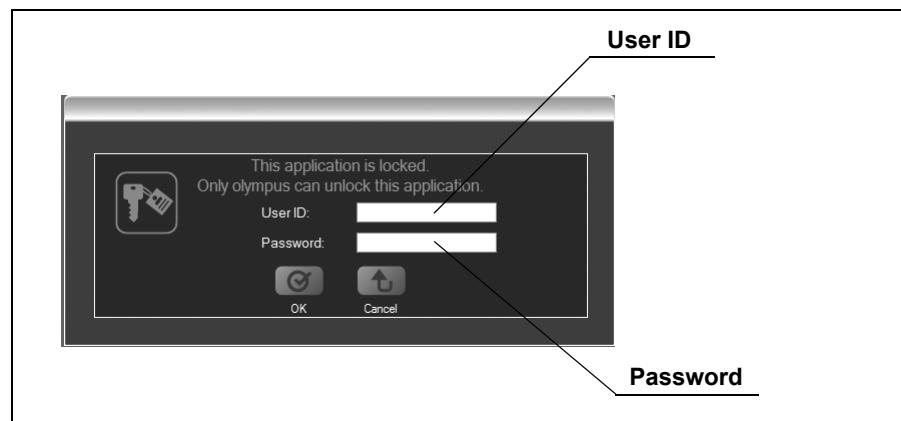

Figure 4.28
1. Enter the user ID and password on the lock screen (see Figure 4.28).